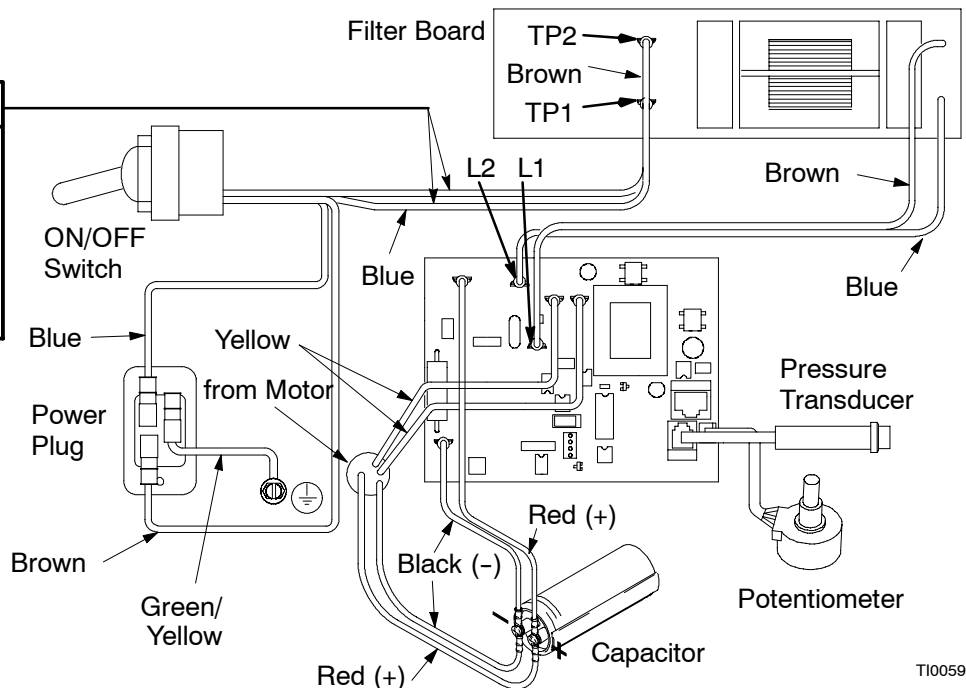

Fig. 13
2. Fig. 13. Remove four screws (18) and pressure control cover (39).
3. Disconnect four wires (A) from ON/OFF switch (23).
4. Remove toggle boot (25) and locking ring (24). Remove ON/OFF switch (23).
- Connect to motor control board (35):
- Lead (E) to transducer.
- Lead (D) to potentiometer.
- Filter board (X) (not 120 Vac sprayers).
- Bundle and tie all loose wires so none lay in contact with inductor coil on filter board (not 120 Vac sprayers). See **Wiring Diagram CAUTION**, Fig. 13 or 14.
- Install cover (39) with four screws (18).